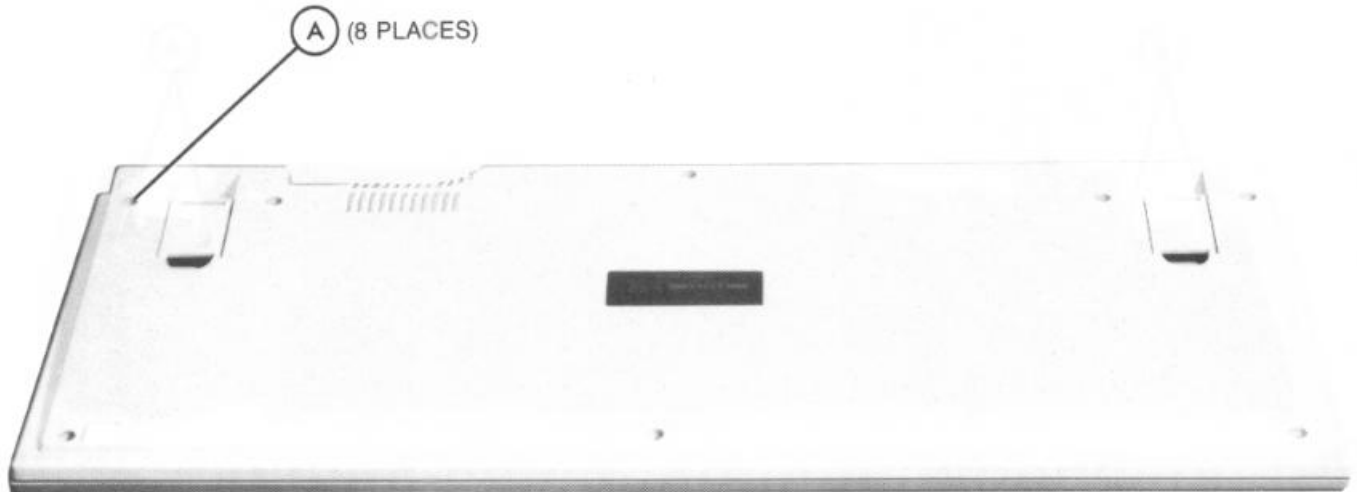

FIGURE 4-15. KEYBOARD CASE REMOVAL/REPLACEMENT
4.4.1 Keyboard Case Removal (Figure 4-15)
4.4.2 Keyboard Case Replacement (Figure 4-15)